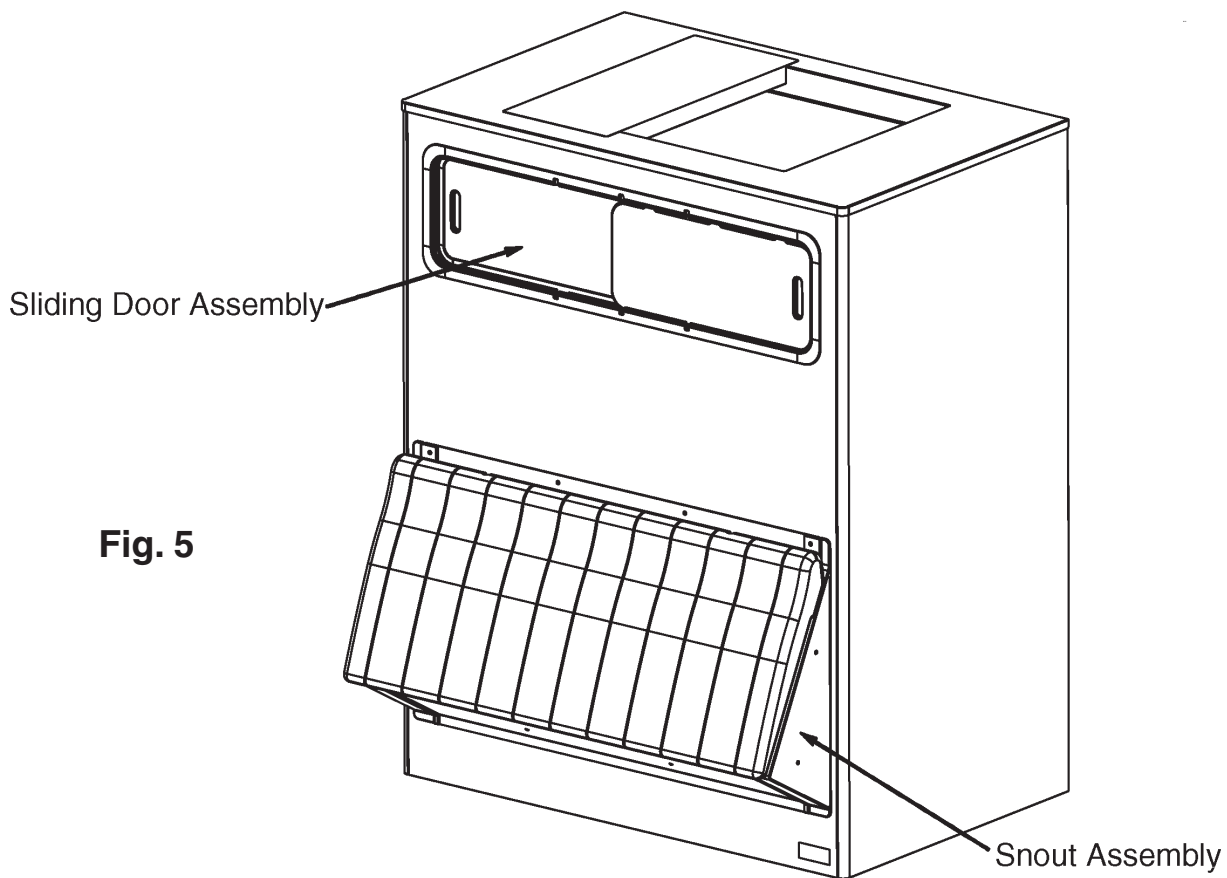

Fig. 5
- 4) Scrub the inside of the bin, the snout assembly and the sliding door assembly using a nylon scouring pad, brushes 5 oz. of Hoshizaki "Scale Away" diluted in one gallon of water. See Fig. 5.